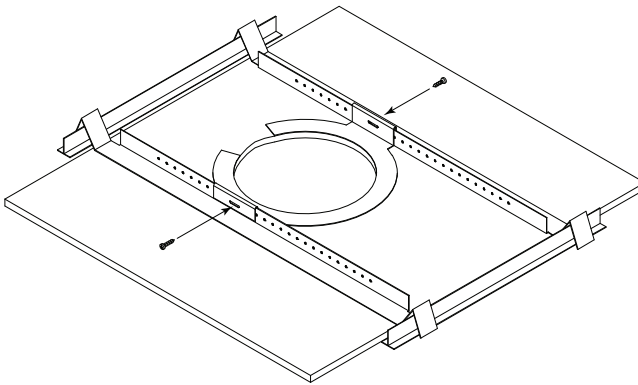

Figure 6: Secure Rails to C-Ring
Step 2: Install C-Ring and Tile Rails (Figure 6)
For suspended ceiling installations, insert the C-ring through the hole cut in the ceiling tile. Place the C-ring around the hole with the tabs located as shown in Figure 6. Insert the tile rails through the cut hole in the ceiling tile. Snap the two rails into the two tabs in the C-ring and align the rails so that the ends extend OVER the T-channel grid on the side of the tile. Secure the rails onto the C-ring tabs by inserting a screw through each tab into the rail, as shown in Figure 6.